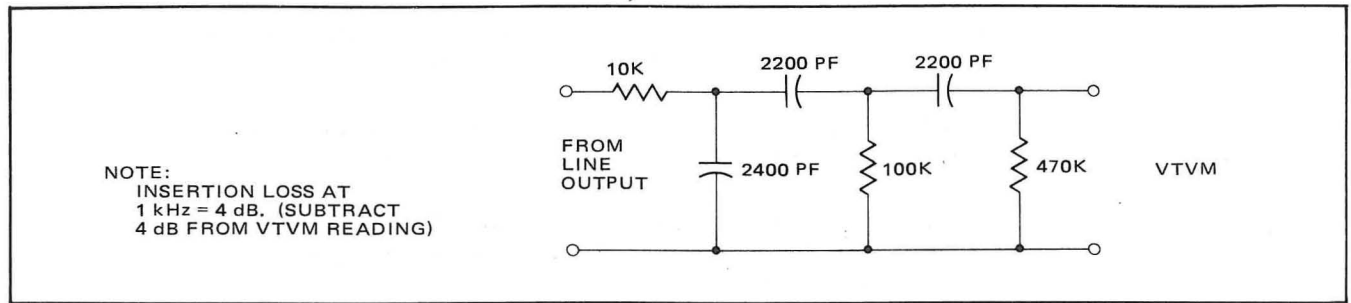

Figure 5-11. ASA "A" Weighted Filter
4. Place the machine in the record mode once again and read the residual noise of the vtm for each channel. For 8- and 16-track systems, the meter should read less than -53 dBm, and for 24-track systems less than -48 dBm. If the ASA "A" weighted filter (Figure 5-11) is used, after correction for the insertion loss of the filter, the meter should read -55 dBm or greater for 8- and 16-track systems, or -51 dBm or greater for 24-track systems.
- a. Connect an ASA "A" weighted filter (Figure 5-11) to the output of the recorder.